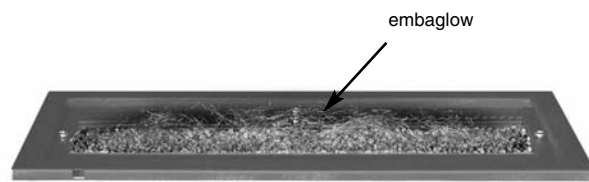

Fig. 35
2. Tease out the strands of embaglow and place onto the burner, ensuring they do not come into contact with the pilot (Fig. 35).